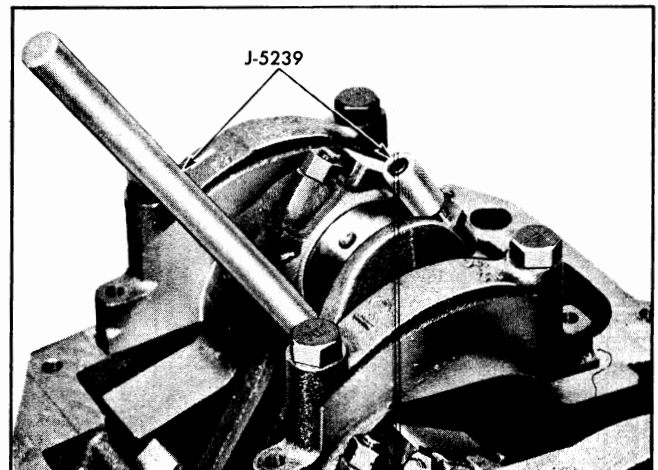

Fig. 6-62 Set J-5239 Positioned for Removal of Connecting Rod Bearing Shell
5. Install connecting rod bolt guide set J-5239 on connecting rod bolts (Fig. 6-62).
5. Carefully remove connecting rod and piston assembly by pushing out with knurled handle of long guide (Fig. 6-62).